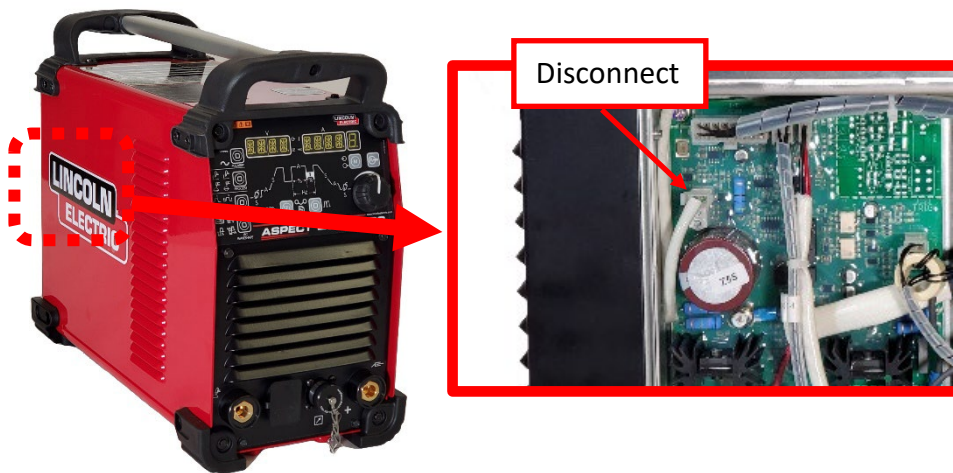

Figure F.6
B.4. Power the machine down and remove input power, remove connector identified before proceeding. Refer to Figure F.6 for location.